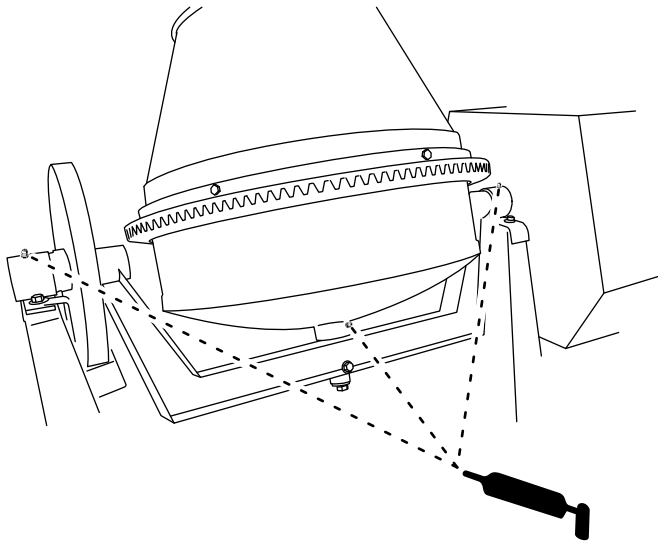

Figure 41
2. Clean around each grease fitting with a rag and lift the plastic cap off the grease fitting (Figure 41).
3. Use a grease gun to lubricate the grease fittings of both trunnions and the drum spindle with No. 2 lithium grease (Figure 41).